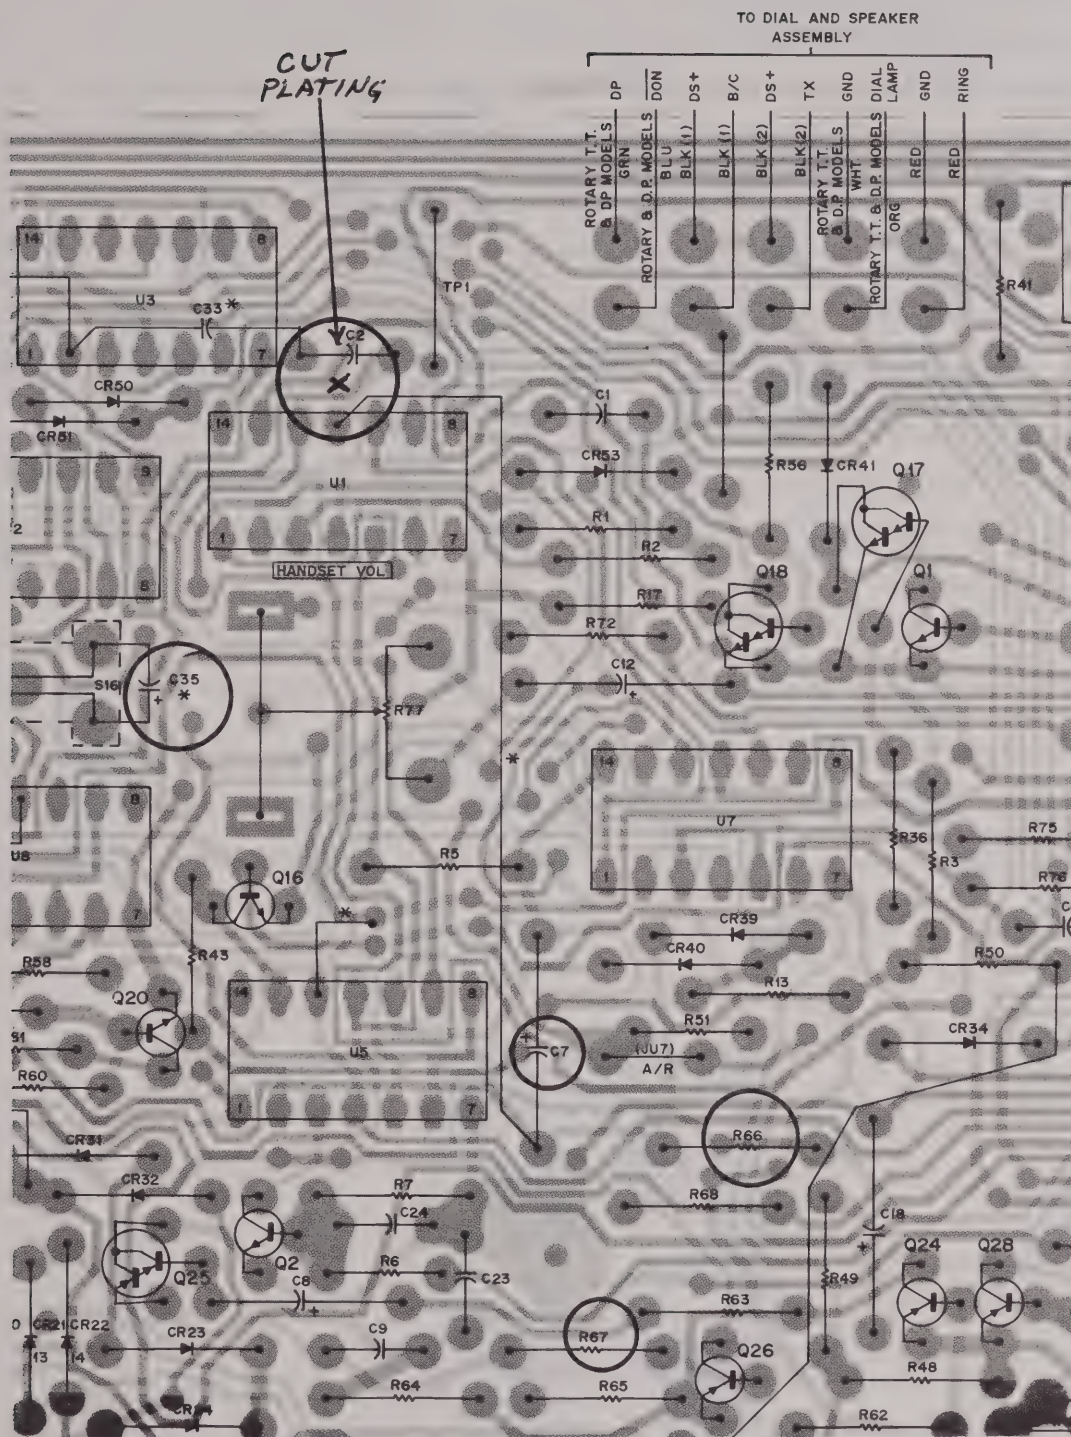

Figure III-1. Cradle Circuit Board Partial Diagrams
3. The modification is as follows. Refer to Figure III-1 for the recommended part placement positions and PC board runner cut. On both RCC and Telco and Bell Control Heads, add R66 and C7; refer to Figure III-1 for location. Do not solder C7 in yet as a
On RCC Control Heads, add C35, a 22 uF capacitor, across the leaf switch (hookswitch), S16, on the solder side of the cradle board. Refer to Figure III-1 for proper polarity, making sure that the positive lead of the capacitor is attached to the S16 switch lead closest to the channel switches. Also, make sure that C35 does not block the access hole to volume pot R77.
On all control heads, Telco, Bell, and RCC, the following additional circuitry change must be made. Cut the circuit board metalization runner on the component side leading from U1 pin 11, as shown in Figure III-1. Add an insulated jumper wire (eg., #24AWG, stranded) from U1 pin 11 to the negative end of C7, and complete the soldering of C7. The PC runner must be cut on the component side; the jumper can be added to the solder side.